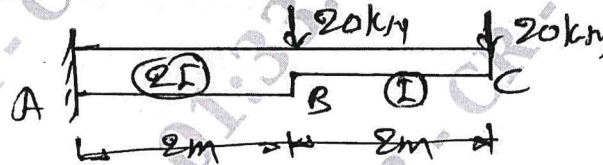

Fig Q5(b)
b. Compute the deflection and rotation (slope) at the free end C of cantilever beam by unit load method. Shown in Fig Q5(b). Take $E = 200 \text{ GPa}$ $I = 8 \times 10^7 \text{ mm}^4$.